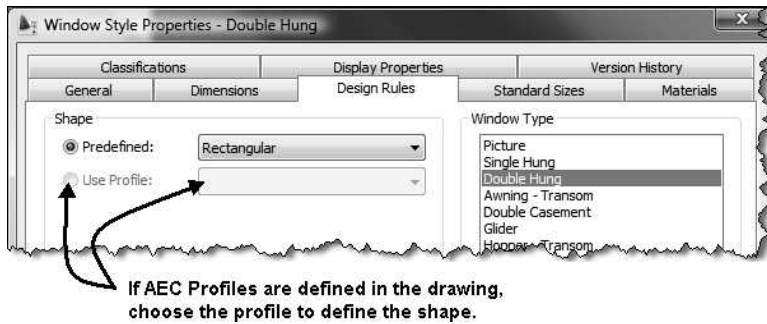

FIGURE 5.38 Design Rules tab of a window style in the Style Manager
7. Choose the **Design Rules** tab allows you to specify the shape and window type of the style. The Design Rules tab is shown in Figure 5.38. You can create an AEC Profile from a closed polyline, and apply the AEC Profile to define the shape of the window in the **Shape** options. The **Window Type** options define the operation of the sash for the window.